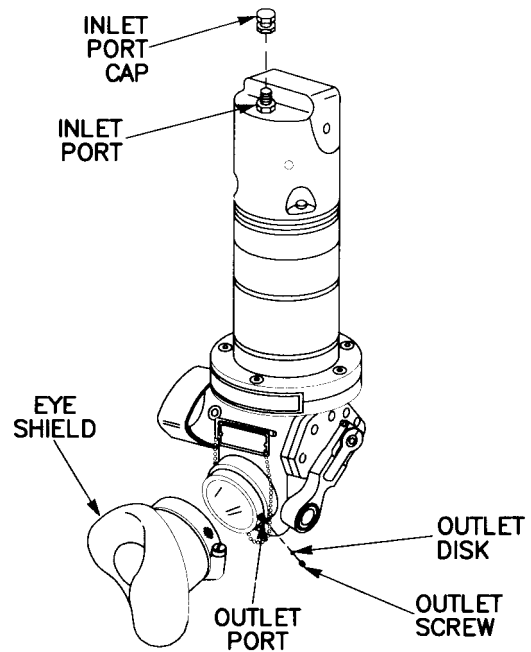

Figure 3-18 M28C Tank Periscope
- a. Periscope, M28C Tank (fig. 3-18).